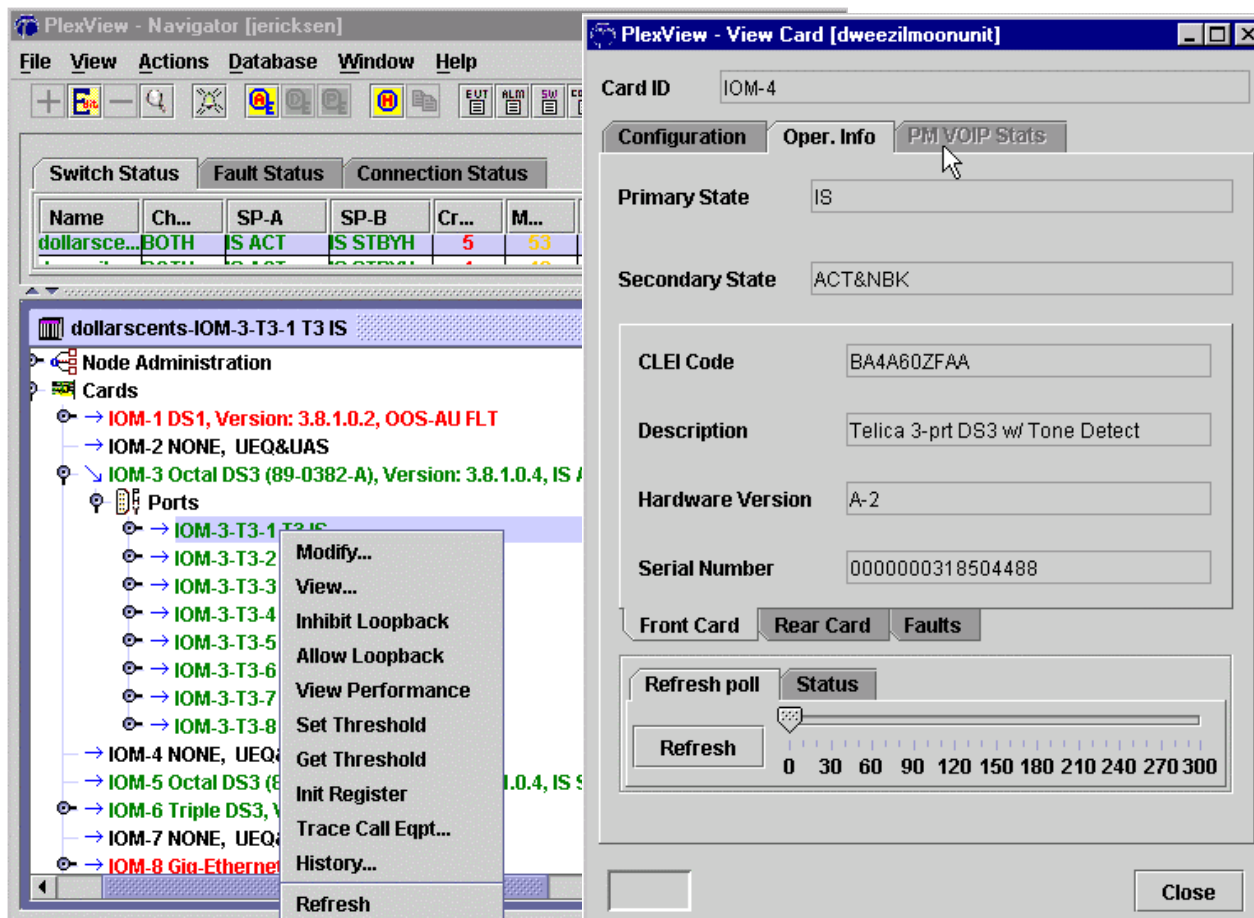

Figure 3. Retrieving Module Information
19. Double-click the switch to select it for the main panel and then double-click *Cards*. Right-click the desired IOM and then select *View* and then *Oper. Info*. Note the CLEI and software version. Refer to Figure 3.
If using **EMS**, then retrieve IOM information. Refer to Step 19 and Figure 3.